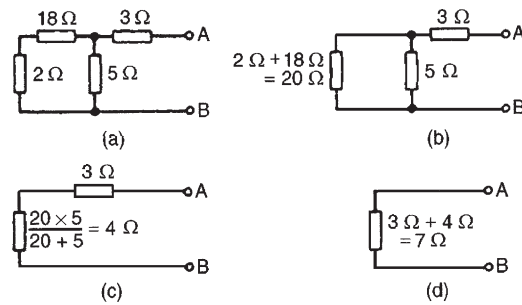

Figure 13.32
- (iv) The resistance ‘looking-in’ at terminals  $AB$  in Fig. 13.32(a) is obtained by reducing the circuit in stages as shown in Figs 13.32(b) to (d). Hence the equivalent resistance across  $AB$  is  $7\ \Omega$ .